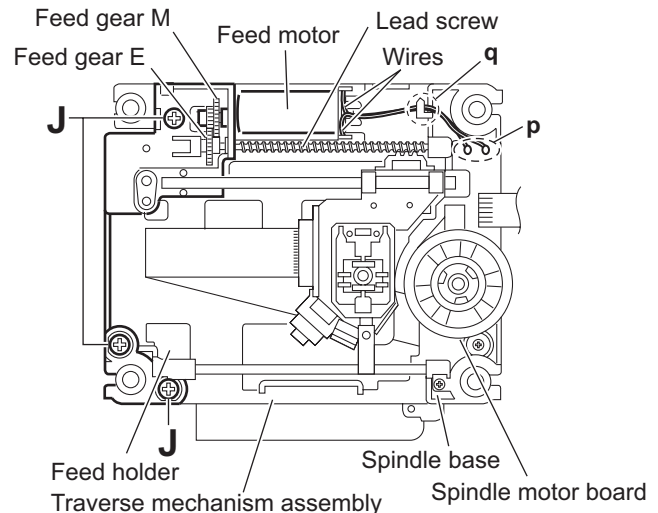

Fig.14
- Remove the wires from the soldered sections **p** on the spindle motor board. (See Fig.14.)
When attaching the feed motor, pass the wires through the section **q** on the spindle base. (See Fig.14.)
- Remove the three screws **J** attaching the feed holder. (See Fig.14.)
- Remove the feed holder, feed motor, lead screw, feed gear **E** and feed gear **M** simultaneously. (See Fig.14.)
3.2.10 Removing the spindle motor board (See Fig.14 and 16)
- From the top side of the traverse mechanism assembly, remove the wires from the soldered sections **p** on the spindle motor board. (See Fig.14.)